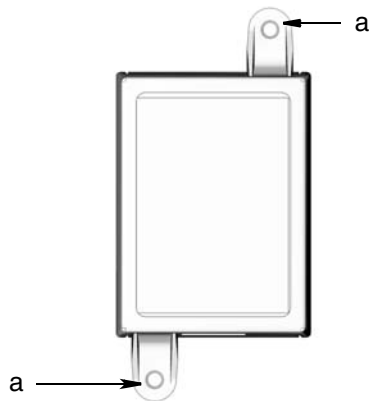

FIG. 4
3. Align the junction box with the predrilled holes (FIG. 4, (a)). Use two screws (not provided) to secure junction box to mounting surface.